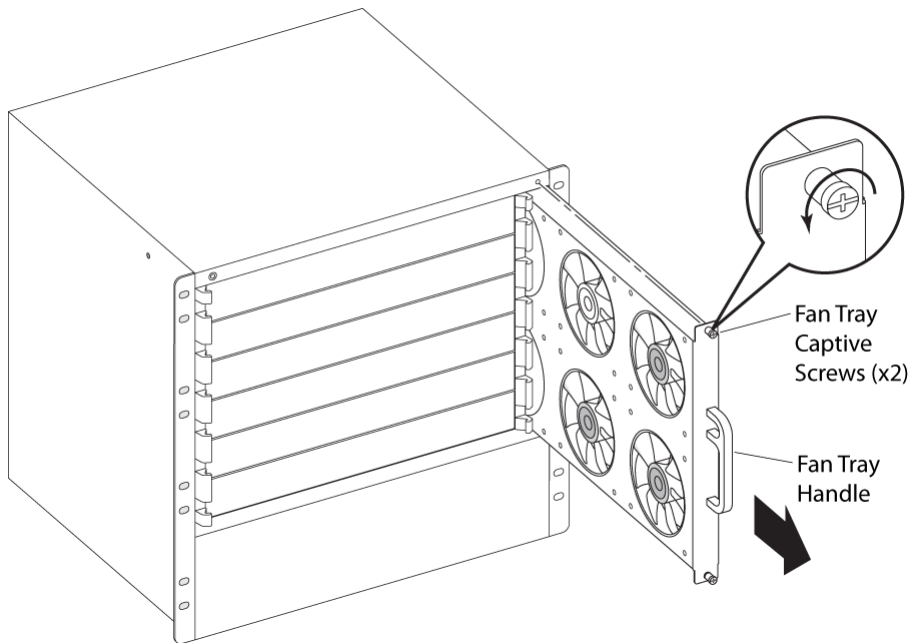
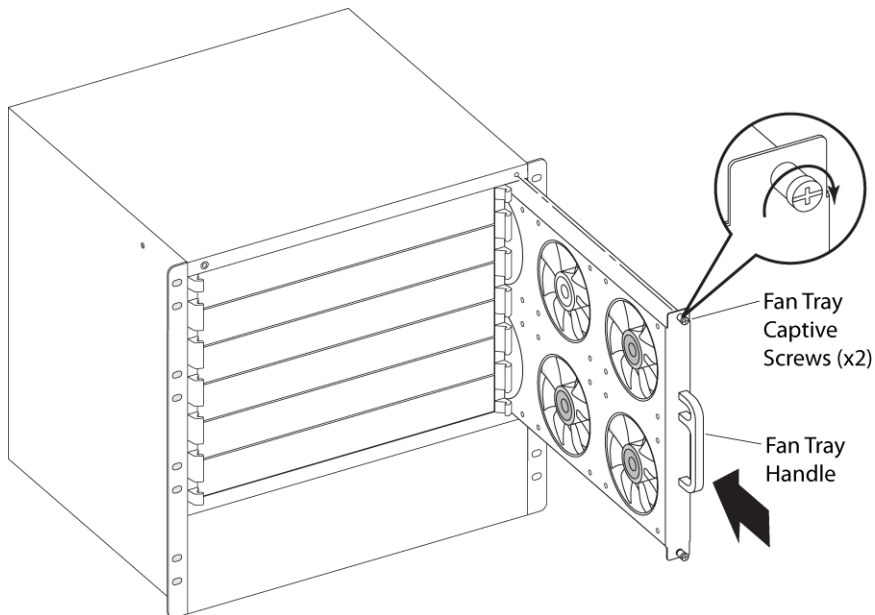

Figure 65. Installing the Fan Tray in the XCM8810 Switch
Figure 66. Installing the Fan Tray in the XCM8806 Switch
2. Support the bottom of the fan tray with one hand as you lift the fan tray by the handle using the other hand. Align the spare fan tray with the fan tray slot on the switch, and then slide the fan tray into place in the switch (see Figure 65 and Figure 66).
3. Use a #2 Phillips screwdriver to tighten the screws (Figure 65).